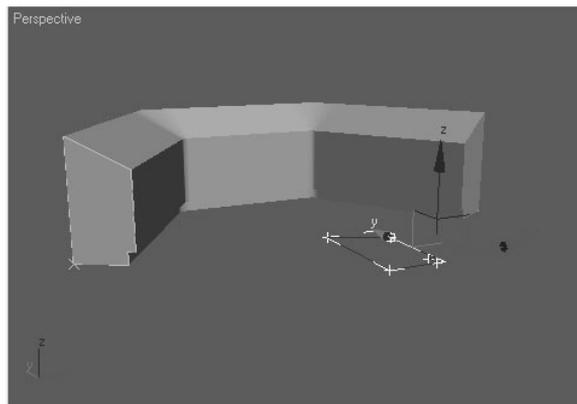

FIGURE 9.17 A kick space is being created at the inside bottom of Console01 as you modify the 2D shape.
3. In the Modify panel, Stack view, highlight Vertex sub-object level. On the main toolbar, click the Select and Move button. In the Top viewport, move the three vertices on the right side to look similar to Figure 9.16. You notice in the other viewports that the changes are being reflected in the Console01 object (see Figure 9.17).